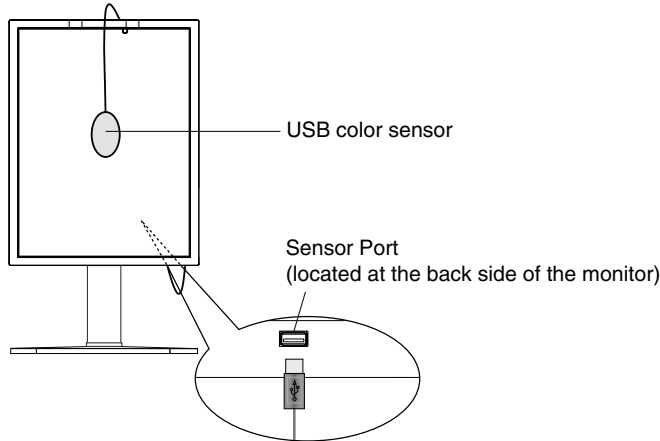

Figure S.1
1. To show the CALIBRATION menu, plug-in the USB color sensor to the sensor port (**Figure S.1**) or select STAND ALONE CALIBRATION in the advanced menu (page 22).
4. The procedure will ask for the USB color sensor to be placed on the center of the display panel (**Figure S.3**). Tilt the display panel approximately 5° backward and place the USB color sensor in the center of the display panel (**Figure S.1**).